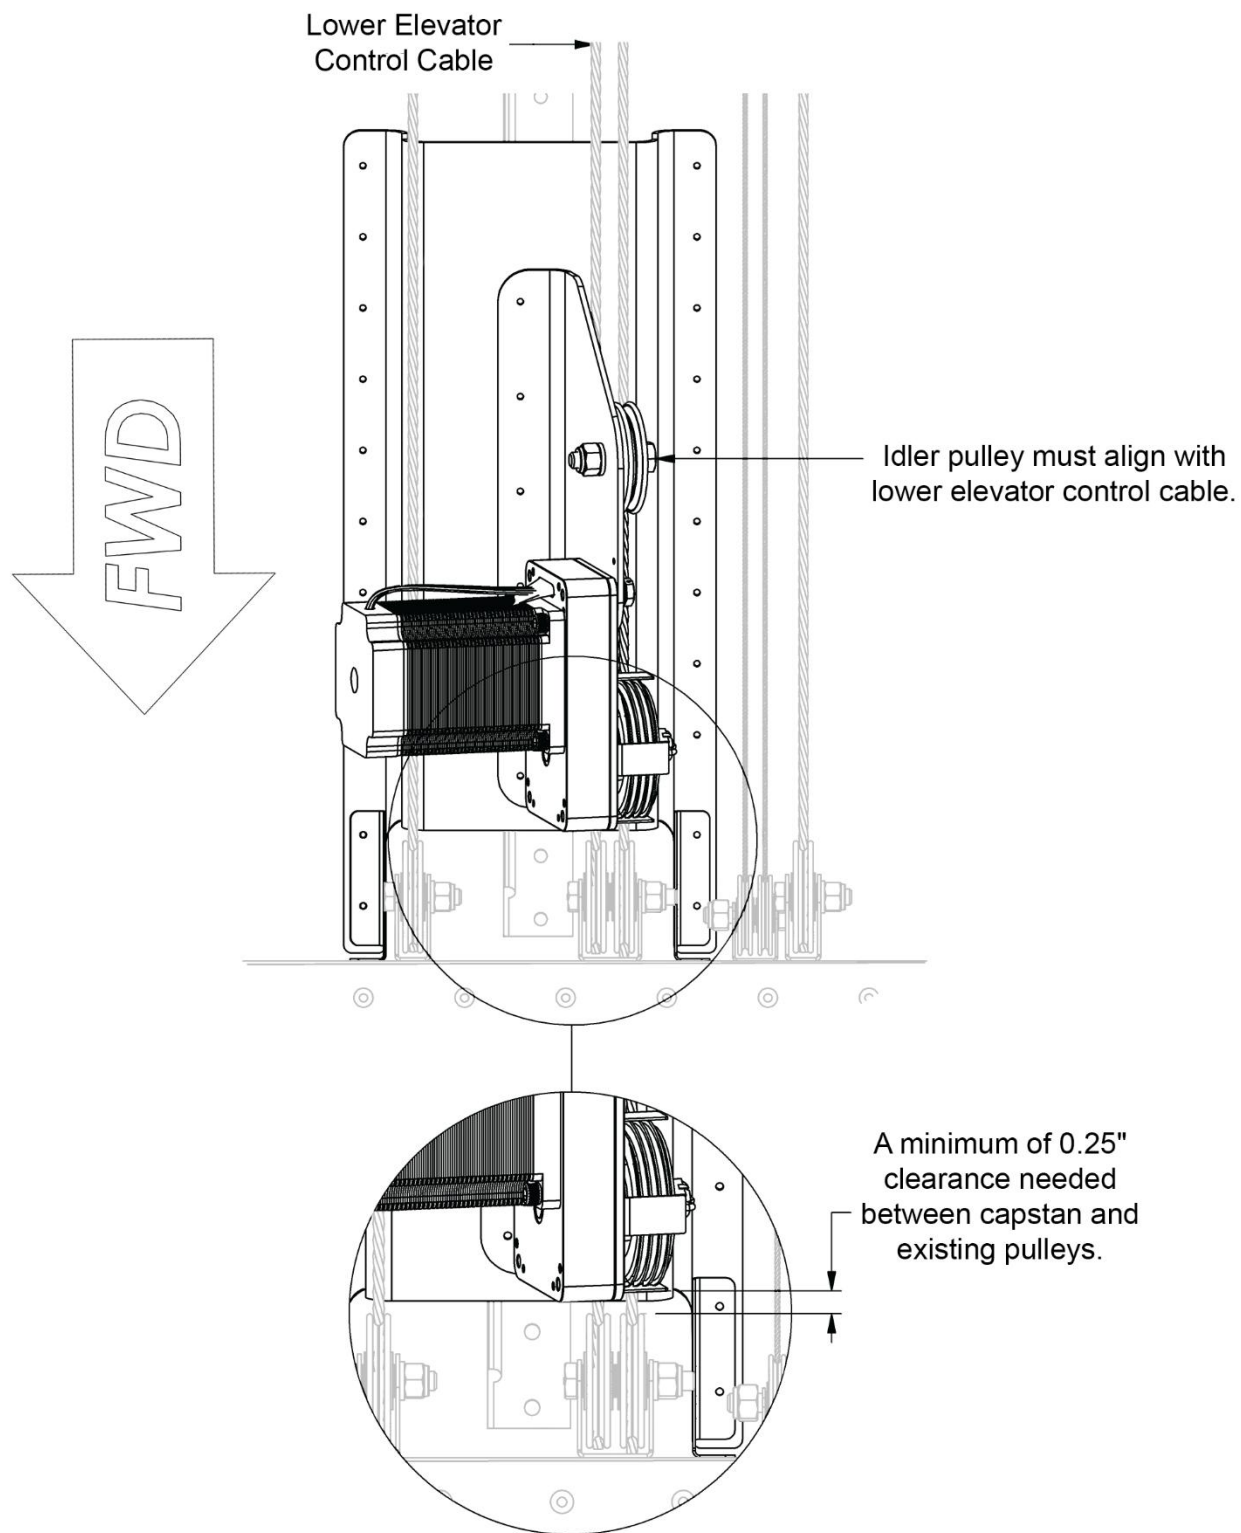

Figure 20: Positioning Servo Assembly Longitudinally on Base Bracket
8. Position servo assembly longitudinally on base bracket so that forward edge of servo capstan maintains a minimum of 0.25" spacing from elevator control cable pulleys mounted to FS108 bulkhead (see Figure 20).